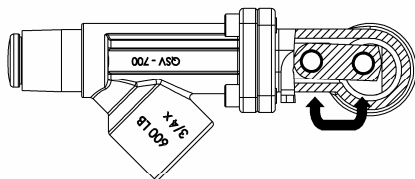

Figure 4 Bearing Replacements.
The QSV has two (2) bearings (See Figure 4). First remove the three socket head machine screws holding the operator handle and handle plate. Then to remove the outer